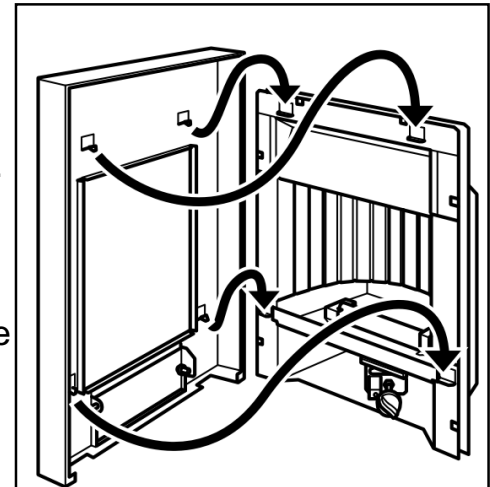

Figure 24. Fascia location
1. Unpack the fascia. Carefully lift the fascia. Place the fascia against the fireplace front surface so that the four retaining plates at the back of the fascia are directly above the four retaining brackets of the hotbox. There are two at the top of the hotbox and two to the side of the burner module. Do not lift the fascia too high as the bottom of the fascia will foul against the control knob. Lower the fascia unit making sure that the retaining plates locate fully into the brackets on the hotbox (See figure 24).